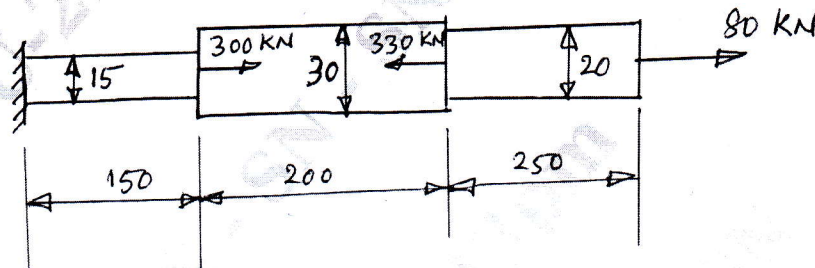

Fig:Q1(b) Dimensions in mm
- b. A steel circular bar has three segments as shown in Fig.Q1(b). Determine :